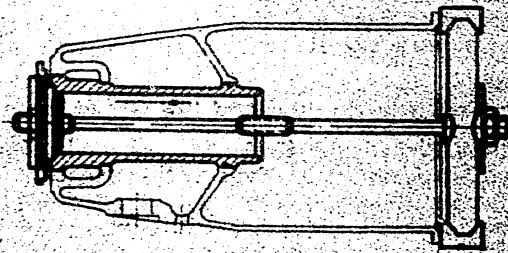

Fig. 27
2. Press the 2nd stage cylinder liner in the 2nd and 3rd stage casing by means of a special tool (see Fig. 27), having fitted a rubber packing ring, $L_0=100$ mm, and $\varnothing 133 \times \varnothing 130 \times \varnothing 1.5$ copper washer.